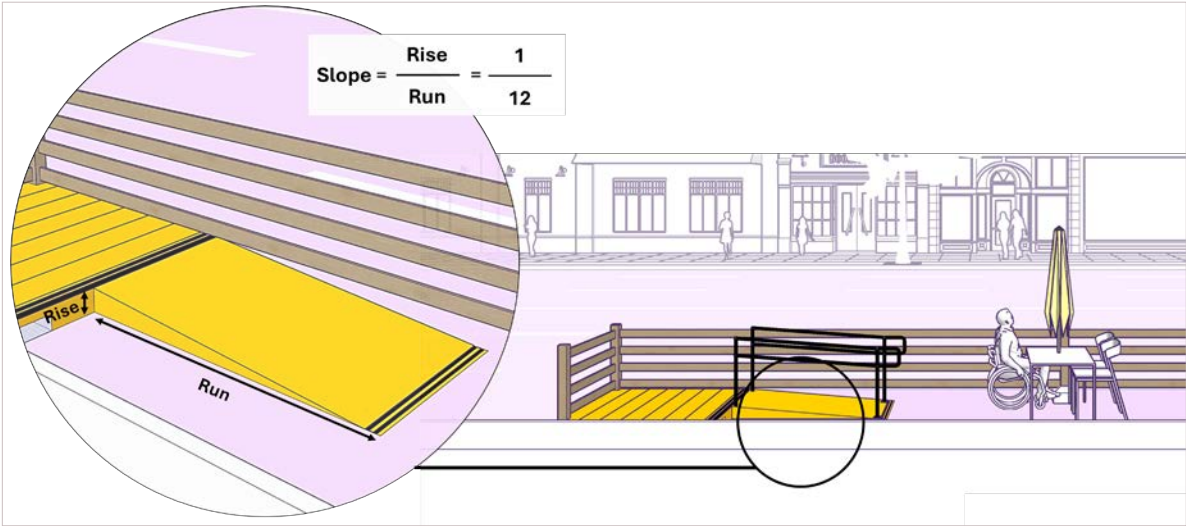

Figure 23: Ramp slope
- h. Ramp length varies per site conditions, but the slope of the ramp must not exceed **1:12** (see Figure 23).
- i. A contrast strip must be provided at the top and bottom of the ramp (see Figure 23).